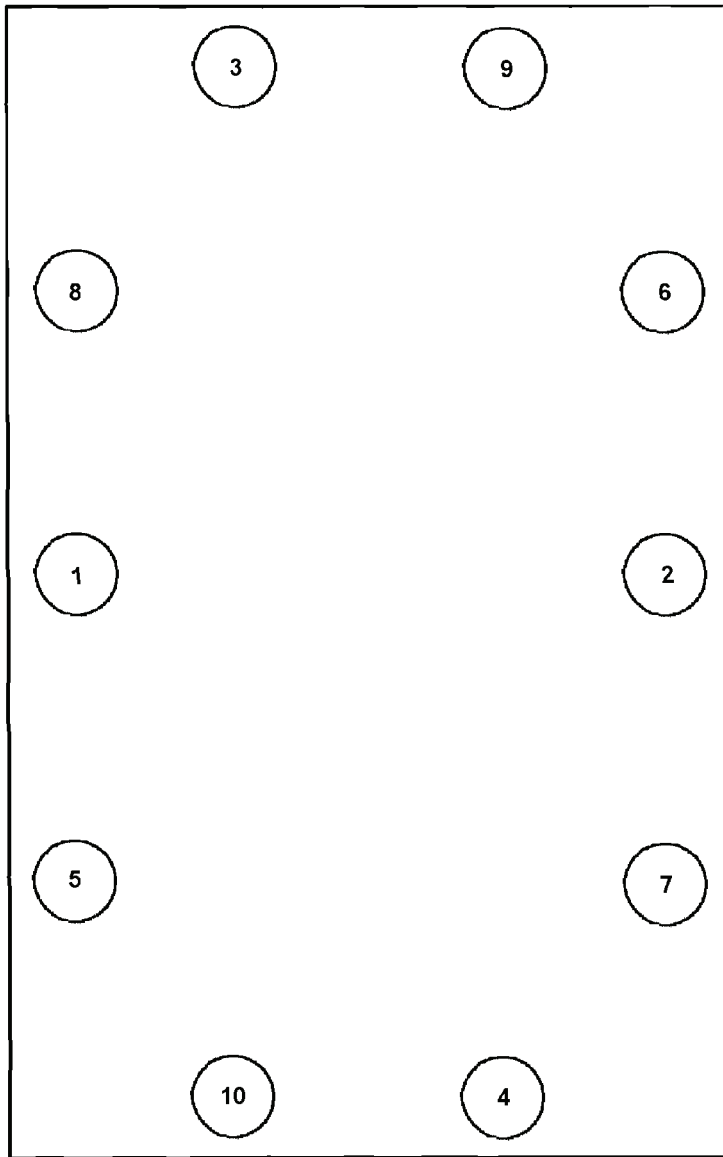
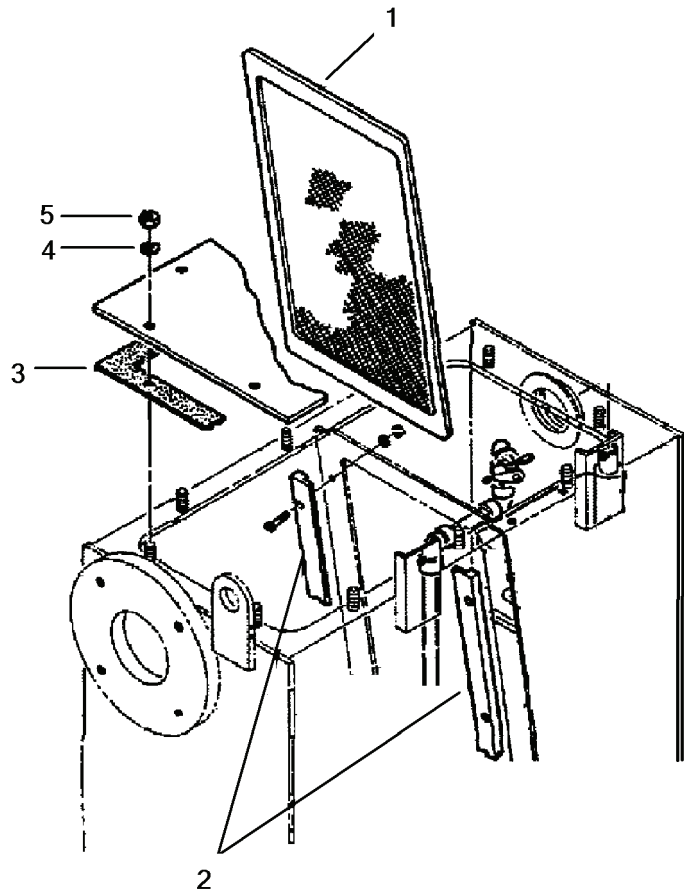

Figure 2-14. Treatment Tank Cover Torque Sequence.
Figure 2-15. Screen Assembly.
**2-15. Screen Assembly and Tank Top Group. (Figure 2-14 and 2-15)**
- a. Remove the treatment tank cover and gasket. Inspect gasket for cracks, tears, and replace if damaged (3, Figure 2-15).
- (1) Remove the ten capscrews (5) and washers (4) from the tank cover.
- (2) Lift the cover and cover gasket (3) from tank. Discard gasket.
- b. Remove reduction/retention screen assembly (1) by pulling up on the screen frame. The frame slides between the guides (2).
- a. Insert backwash screen assembly (1, Figure 2-15) into place by sliding it down between the guides (2, Figure 2-15).
- (1) Ensure gasket surfaces are clean, and install gasket.
- (2) Position the cover and install ten capscrews and washers. Ensure the gasket stays in position when installing the cap screws. Tighten capscrews to 31 ft-lb, using the sequence shown in Figure 2-14.